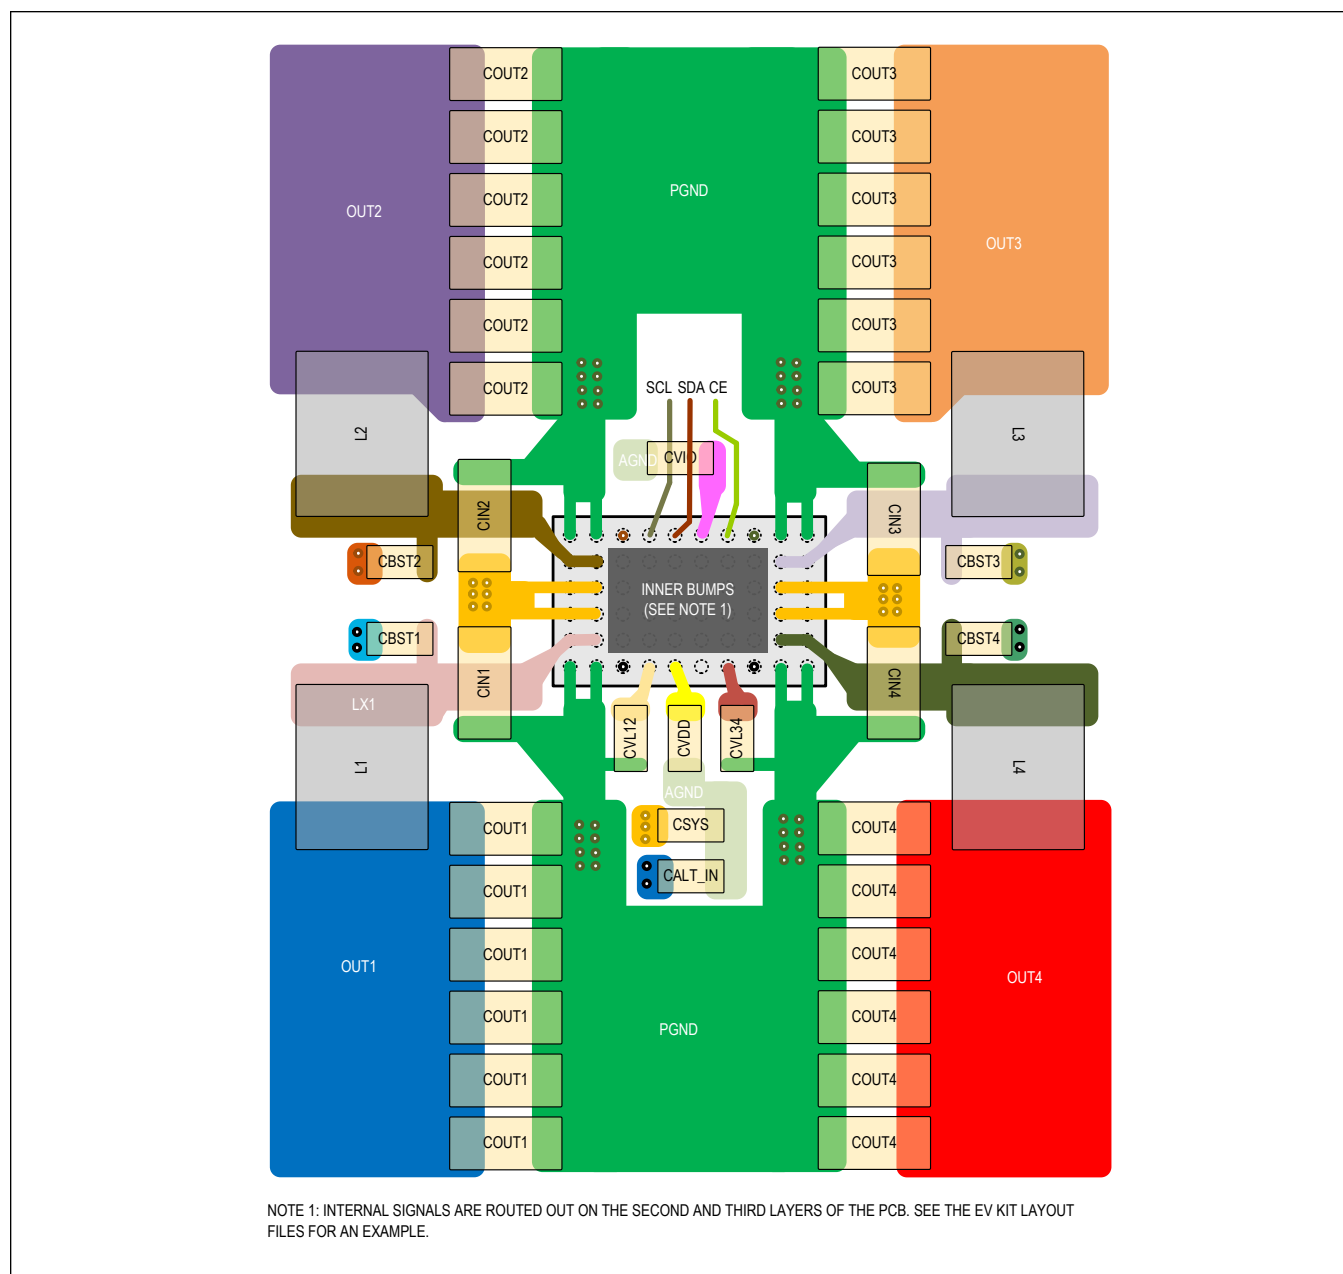

Figure 15. PCB Layout Example
- The power components should be placed first followed by the small analog control signals (see Figure 15).
- The power stage loop that is made by the input capacitor ( $C_{IN}$ ), the LX trace, the inductor (L), and the output capacitor ( $C_{OUT}$ ) coming back to the PGNDx pins should be minimized in consideration of EMC.